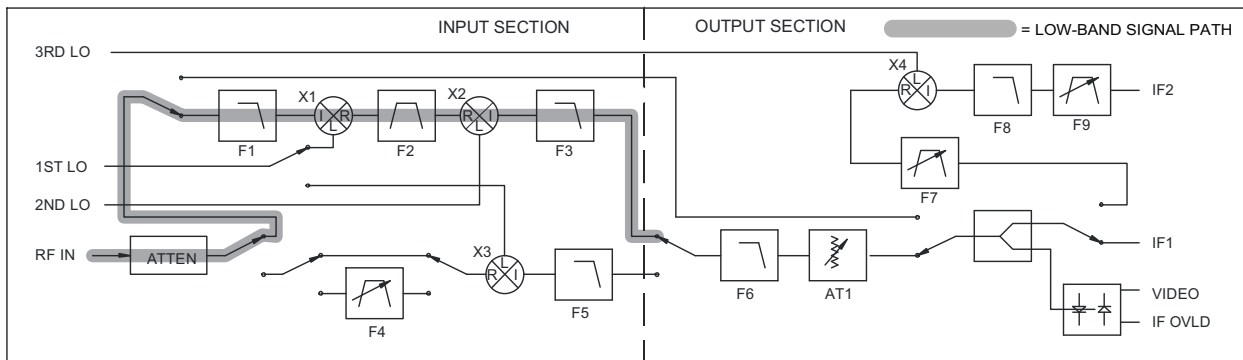

Figure 4-2. Low Band Signal Path
The Low Band Signal Path (Figure 4-2) is specified for signals in the range of 100 MHz to 2.9 GHz. In mixer X1, the input signal is mixed with a First LO signal of 3.6 GHz to 6.4 GHz to produce an intermediate frequency (IF) difference signal of 3.5 GHz. This signal is filtered by an IF strip consisting of a series of bandpass filters, amplifiers, and attenuators (represented by F2 in Figure 4-2). The IF strip sets the bandwidth of the path at a nominal 40 MHz (1 dB bandwidth). Input filter F1 is a series of buffered low-pass filters which perform the functions of image rejection and attenuation of the LO1 signal appearing at the RF input.